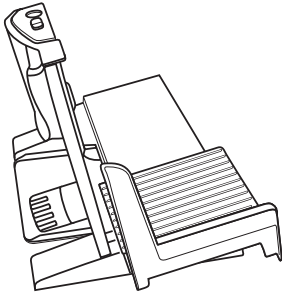

Figure 2
1. Ensure that all parts of the food slicer are correctly in place. Place the fully assembled appliance on a flat level surface with the width selection dial to your left. See Figure 2.